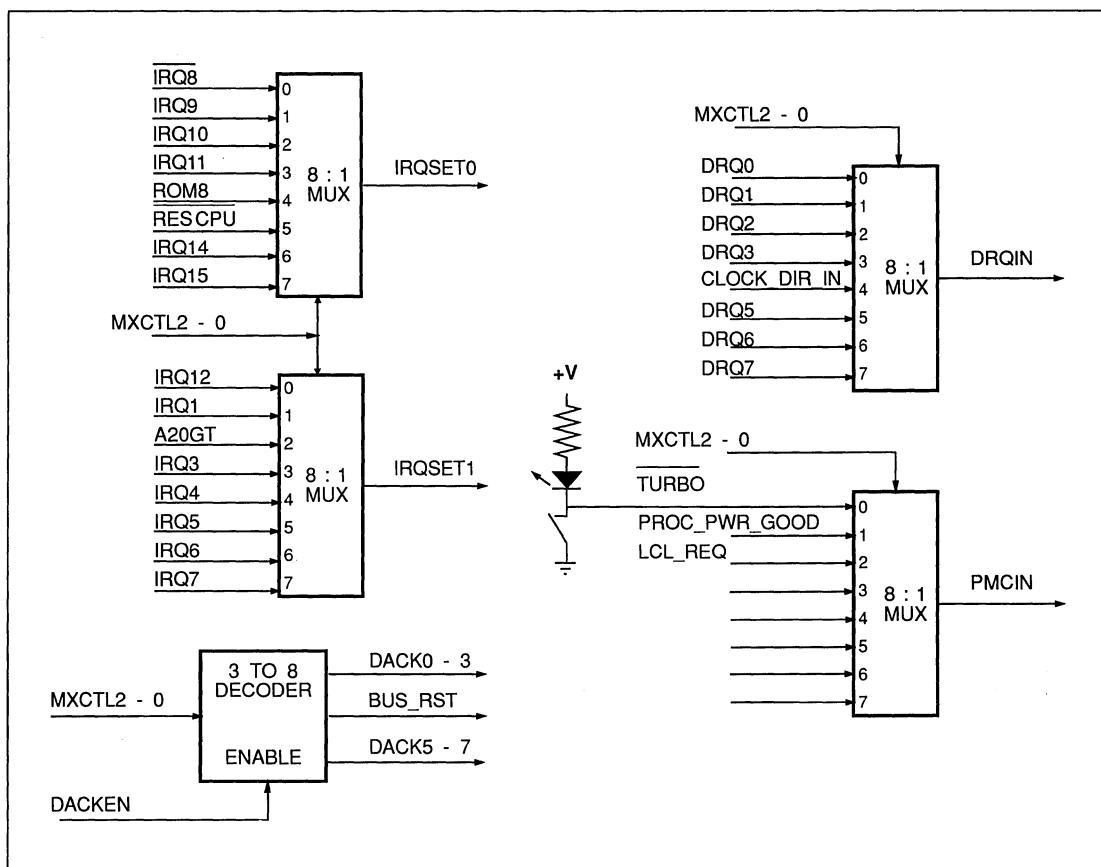

FIGURE 5-1. MXCTL2-0 MULTIPLEXING
* Based upon the value of CLOCK_DIR_IN at power up (refer to Table 5-1, Figure 5-1 and section 5.1.2).
To reduce the number of pins required, the System Controller generates and outputs the MXCTL2-0 and DACKEN signals used by external logic to multiplex the DACKs, DRQs and IRQs down to single inputs. See Figure 5-1.
Immediately following a System Reset (RSTIN), DRQIN input 100 is sampled. If low, the processor clock (CPUCLK) pin is an output. If high, the CPUCLK starts as an output but is switched to an input shortly after RSTIN is de-asserted. See Table 5-1 and Figure 5-1. This controls the default value of CLK_SPD in the CPU Clock (CPUCLK) Control Register at Port 1072H. See section 4.2.4.
The Interrupt Requests are multiplexed by the WD76C30. The multiplexing is performed as shown in Table 5-1 and Figure 5-1, and provides the System Controller with the IRQSET1 and IRQSET0 signals.
The power control signals are placed on the PMCIN input pin by way of an eight to one multiplexer, controlled by the MXCTL2-0 signals from the System Controller. In the WD7910, the TURBO signal may be connected directly to PMCIN. In the WD7710LP, the external 8:1 MUX is always used. See Figure 5-1. Bits 14 and 13 of Port 1872H (Section 5.3) control the power down of the processor and peripheral.
When a PMC interrupt occurs, PMC output 7 at Port 7072H is reset, enabling the power up sequence. A CPURES and BUS_RST (see Figure 5-1) are asserted until the PMCIN 01 PPG at Port 8872H input is high. The tristated outputs are restored and the inputs are no longer masked.